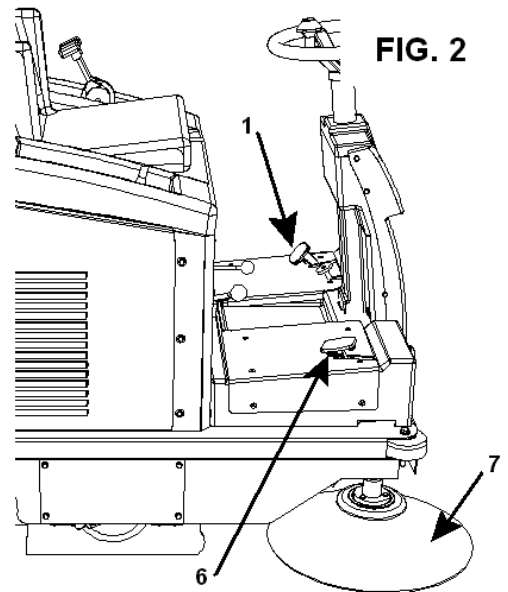

FIG. 2
B) Position a sloping surface (having a load-bearing capacity suitable for the weight of the machine) close up to the narrow side of the pallet. This must be at least 1,5 m long (so as not to damage the rubber dust seals) and 1 m wide. Remove the pieces of wood around the wheels and release the parking brake **Part. 1 Fig. 2**, pressing this so as to release the retention lever. At this point, simply push the machine onto the chute. This operation must be performed without anyone in front of the machine and on a large flat surface. At the end of the unpacking operation, remove and keep the eyebolts and fit the right side brush **Part. 7 Fig. 2** and, if necessary, the left side brush as shown in **page 13**.